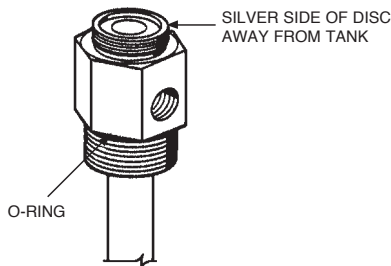

FIGURE 8-5
- Clean and coat o-ring with a good grade of extreme temperature grease. See Figure 8-5.